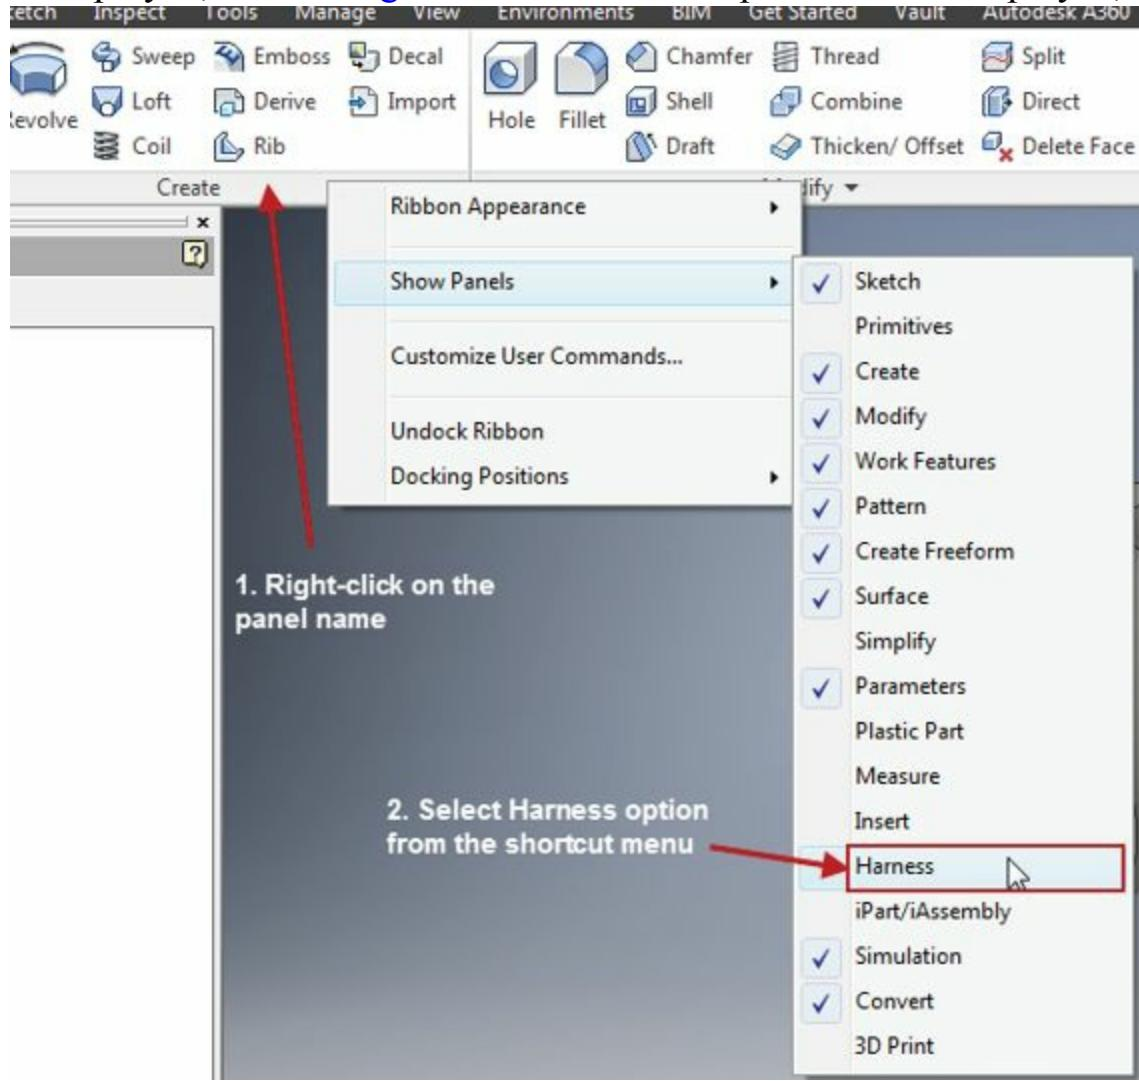
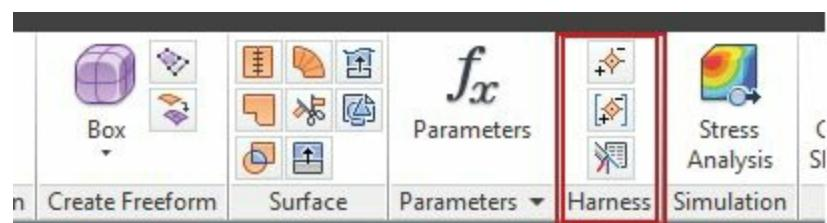

Figure-21. Harness option
Figure-22. Harness panel
- Right-click on any panel name in the **Ribbon** and select the **Harness** option from the shortcut menu displayed; refer to Figure-21. The **Harness** panel will be displayed, see Figure-22.